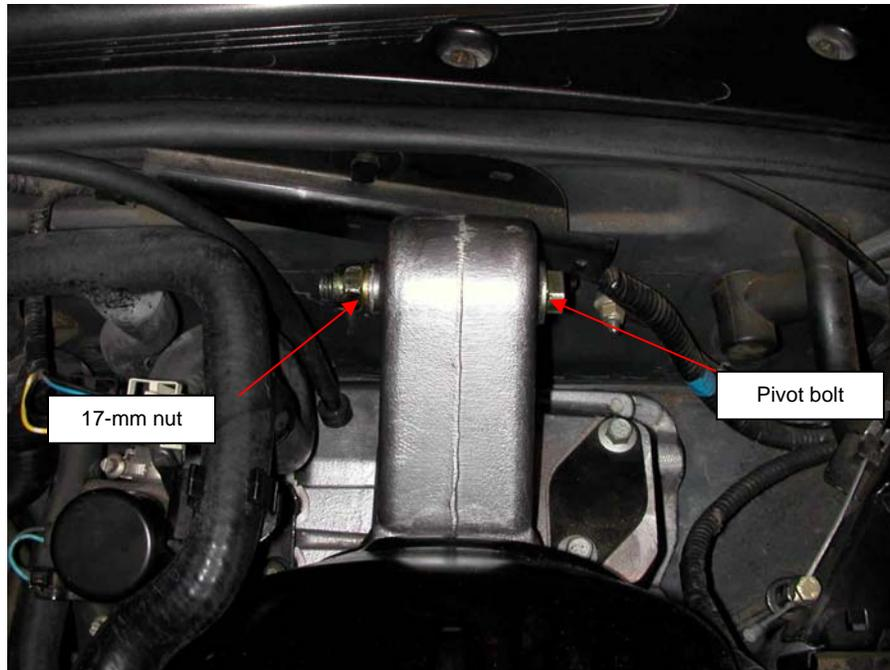

Fig. 19
22. Remove the 17-mm nut on the bolt serving as the upper pivot shaft for the brake-pedal arm (Fig. 19). Note that the bolt head has only two flats. Remove the pivot bolt.